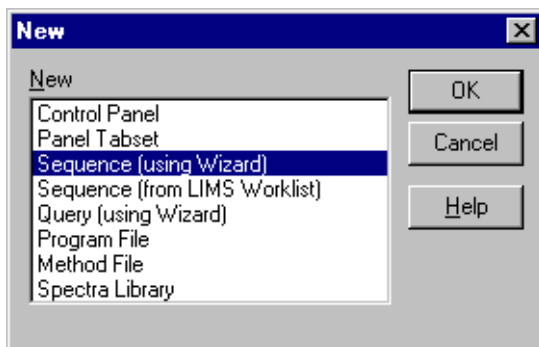

Figure B-24. Creating a New Sequence
3. In the Browser, select **File>New** and select **Sequence (using Wizard)** (see Figure B-24).